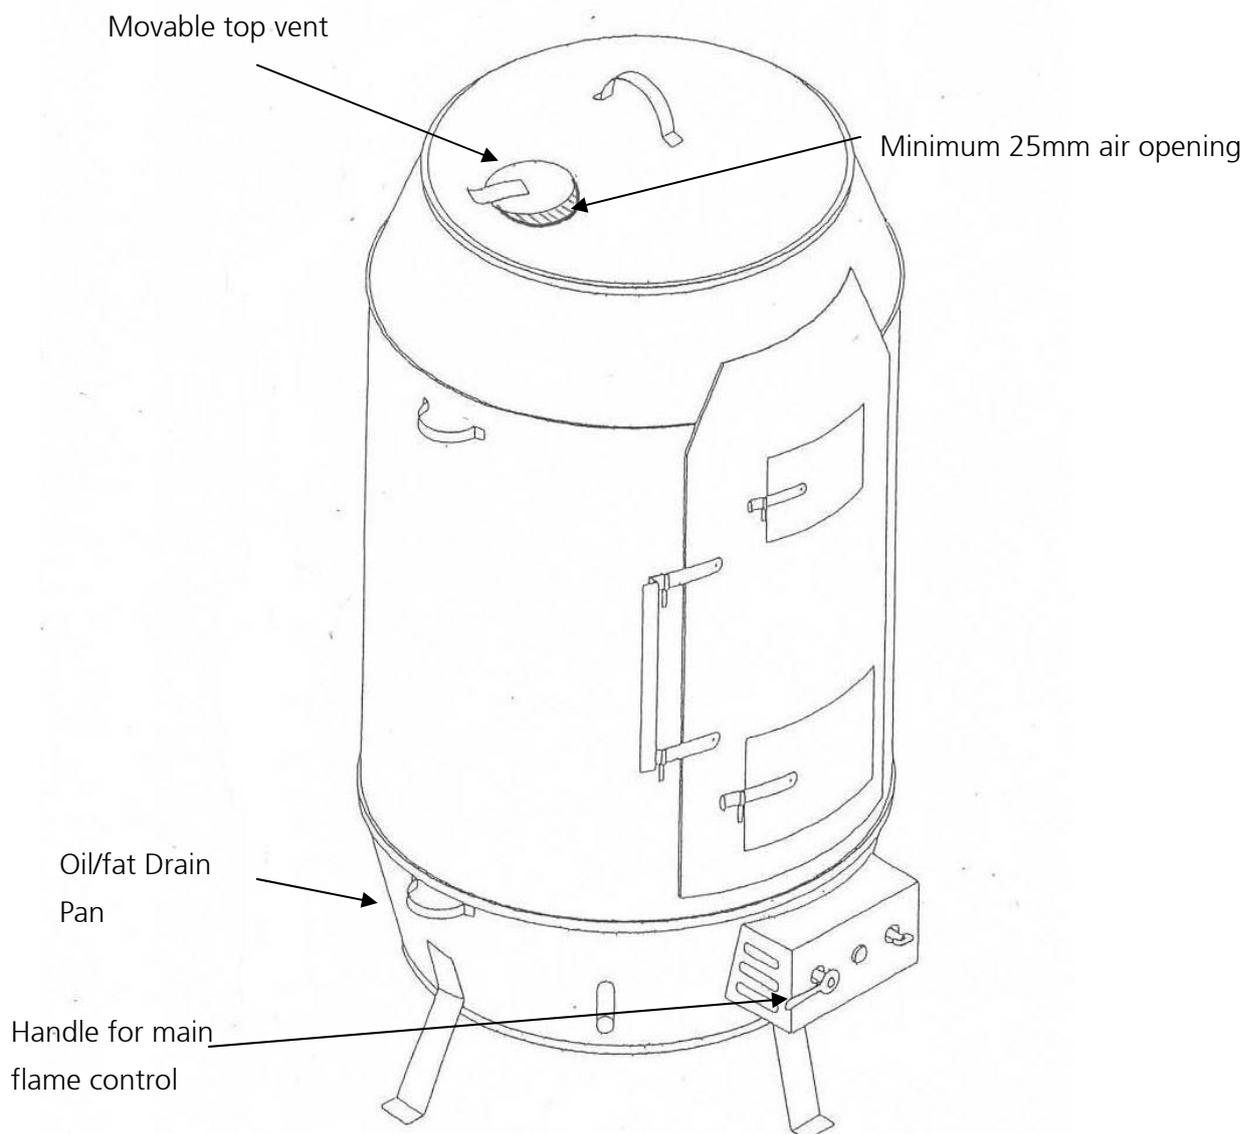

Figure 1 – Typical enclosed type of gas-fired meat roaster
- 3.3. All meat roasters shall be maintained and serviced according to the written instructions of the meat roaster manufacturer. If there is no specific requirement specified by the roaster manufacturer or the recommended instruction by the manufacturer is not informative, the Registered Gas Contractors and owners/operators of the roasters shall follow the minimum maintenance requirements as stipulated in this guidance note. A typical enclosed type of gas-fired meat roaster is shown in Figure 1.